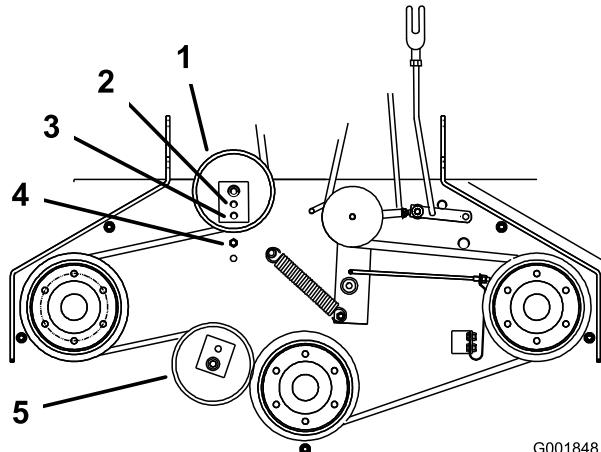

Figure 47
positioned to the middle or front hole (Figure 47). Use the hole that will give the correct adjustment.
7. When the idler pulley is moved the belt guide must be moved. Move the belt guide to the front position (Figure 47).